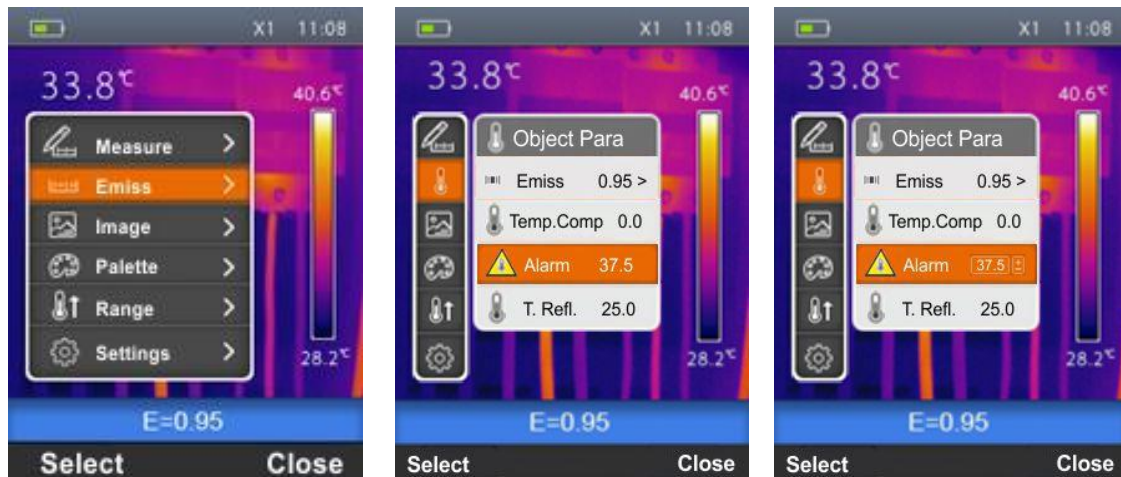
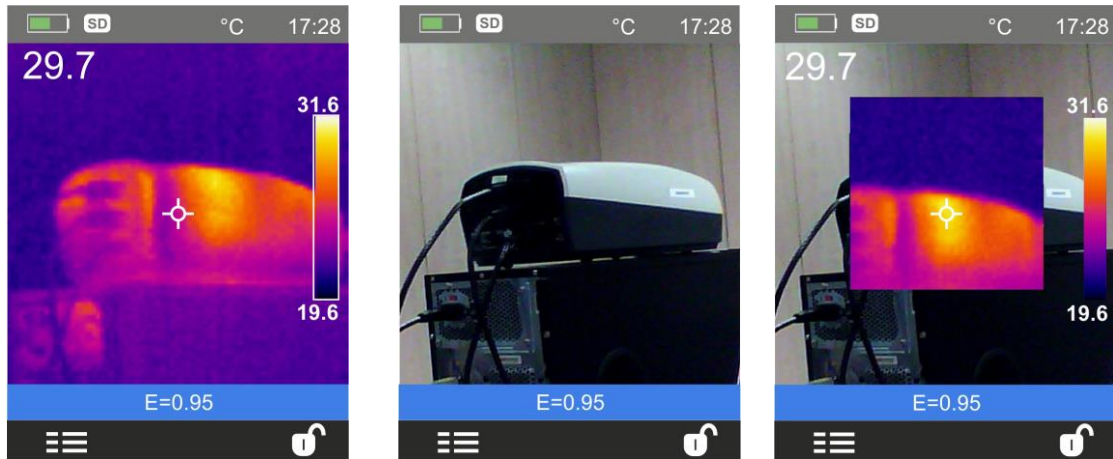

Fig. 20: Setting temperature compensation on the instrument
Fig. 23: Image display modes
1. Select the item “Emiss” with the keys $\oplus$ or $\ominus$ and press the key . The screen Fig. 20 – Central part is shown on the display.
2. Use the keys $\oplus$ or $\ominus$ to select the item “Alarm” and press the key “Select”. The screen Fig. 20 – Right side is shown on the display
2. Use the keys $\oplus$ or $\ominus$ to select the desired display mode among the options: **IR** (infrared image), **Visual** (visual image), **MIX** (fusion of IR image into the visual one) (see Fig. 23) and **AUF** (Auto Fusion function – see § 5.2.4.1) (see Fig. 20)